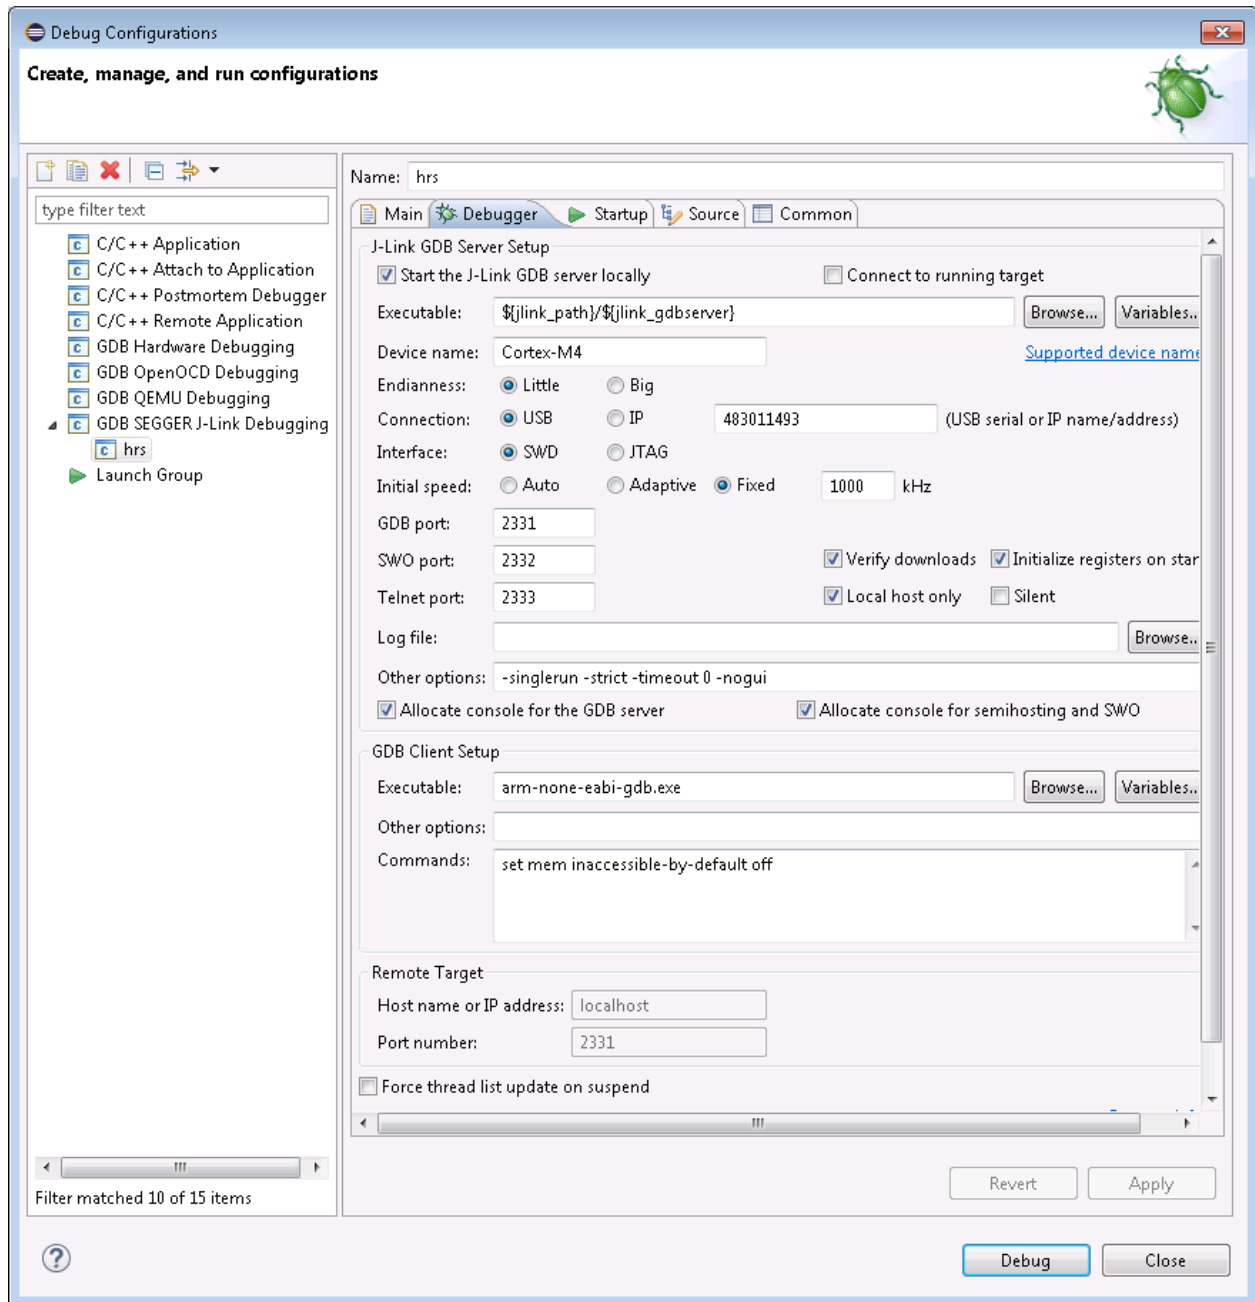

Figure 27: Debugger tab in the Debug Configurations for the hrs app
10. In the **Executable** field, enter the following: *arm-none-eabi-gdb.exe* (Figure 27).